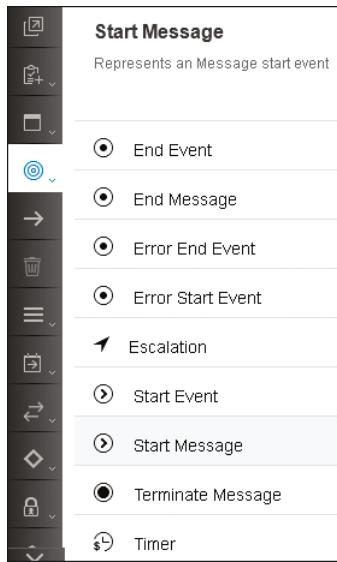

Figure 5.80 Events Shape in the Modeling Environment Palette
2. In the new integration process, add a **Start Message** event and an **End Message** event from the **Events**  shape (Figure 5.80). Connect the **Start Message** event with the **End Message** event.